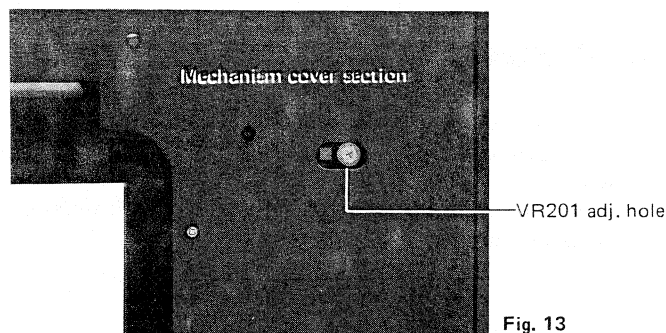

Fig. 13
6-(3) Tonearm following sensitivity adjustment (Fig. 13)